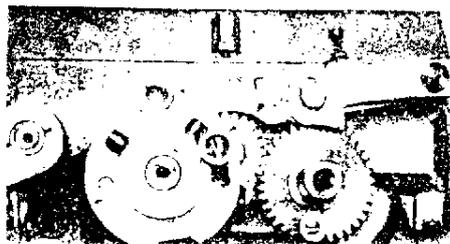

Fig. 19
(I) SELECTION 8 POINTS - FIG. 19 & 20
LA SELECTION 8 POINTS PEUT ETRE EFFECTUEE EN TIRANT LE BOUTON DE CAME (2) VERS L'OPERATEUR (FIG. 19) ET LORSQU'IL EST DEPLACE DANS LA DIRECTION DE LA FLECHE, ET FIXE EN POSITION (2) FIGURE 20, LA CAME (1) STOPPE AU BOUT D'UN DEMI TOUR ET PERMET LA SELECTION 8 POINTS.
APRES AVOIR SELECTIONNE LA POSITION 8 POINTS, TOURNER LE BOUTON DE LA CAME D'EMBRAYAGE (2). LA CAME (1) - A LA POSITION MONTREE FIG. 19 - VA EFFECTUER UNE REVOLUTION COMPLETE PAR CYCLE ET PRODUIRE 16 POINTS.